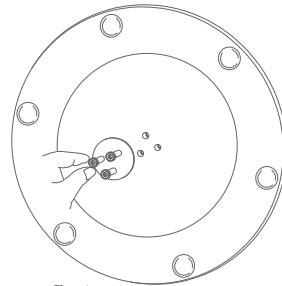

Fig. 4
STEP 4: Insert 3 long screws (E) through the holes on bottom plate (J) underneath of disk base ottoman (I) as shown in fig. 4.